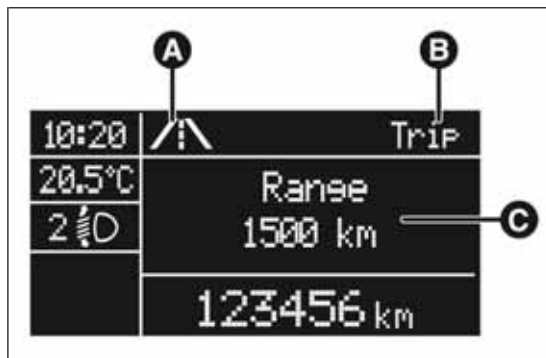

fig. 9
- animated icon in the upper part fig. 9;
- the word "Trip" (or "Trip A" or "Trip B") (B);
- the name, value and unit of measurement of the selected parameter (e.g. "Range 1500 km") (C).